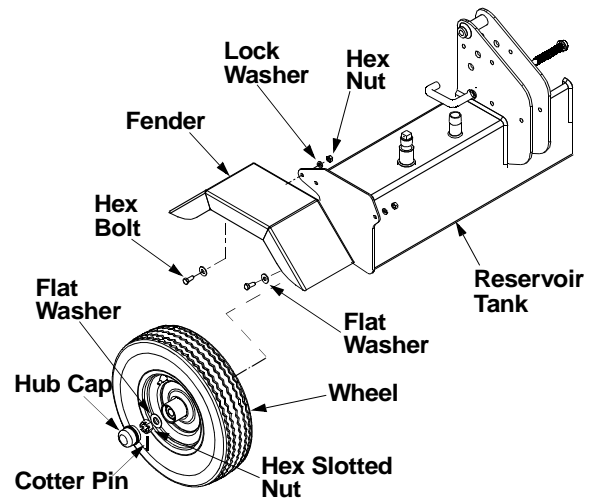

Figure 5
- Place a wheel on each axle with the valve stem facing outward. See Figure 5.
- Insert cotter pins through slots in nuts and holes in axle and secure by bending the ends of the cotter pins in opposite directions. See Figure 5.
- Insert hex bolts through flat washers, holes in fenders, and tank. See Figure 5. Secure fender with lock washers and hex nuts. Tighten securely.